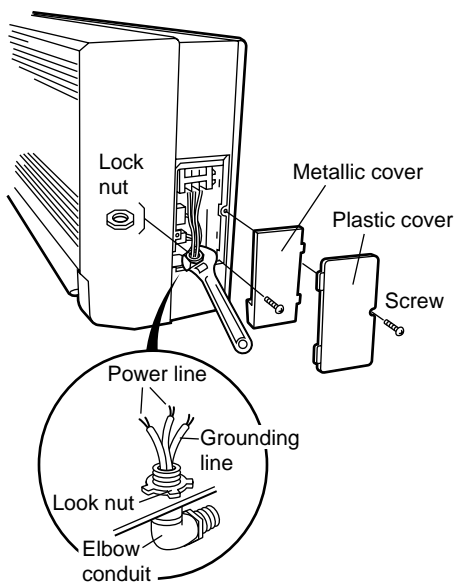

Fig. 3-45
- (b) Remove the side cover and the metallic cover. (Fig. 3-45 or 3-46, depending on model.)
- (c) Secure the conduit connector to the chassis with a lock nut. (Fig. 3-45 or 3-46)